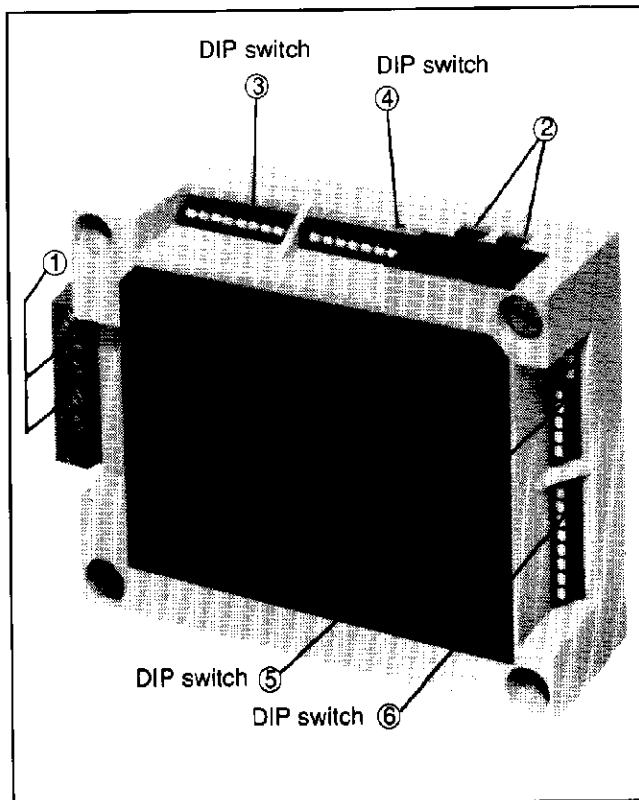

Fig. 1 IQ500M Special Functions Module
The module has four eight-position DIP switches (DIP 3 through DIP 6 — Refer to Figure 1), two Form C relay outputs (1), and two LEDs (2). Program the IQ500M module before it is attached to an IQ-500 device. Be sure that Position 8 of DIP switch 5 is OFF. If Position 8 is ON, all other settings on the IQ500M module are changed to work as load control.